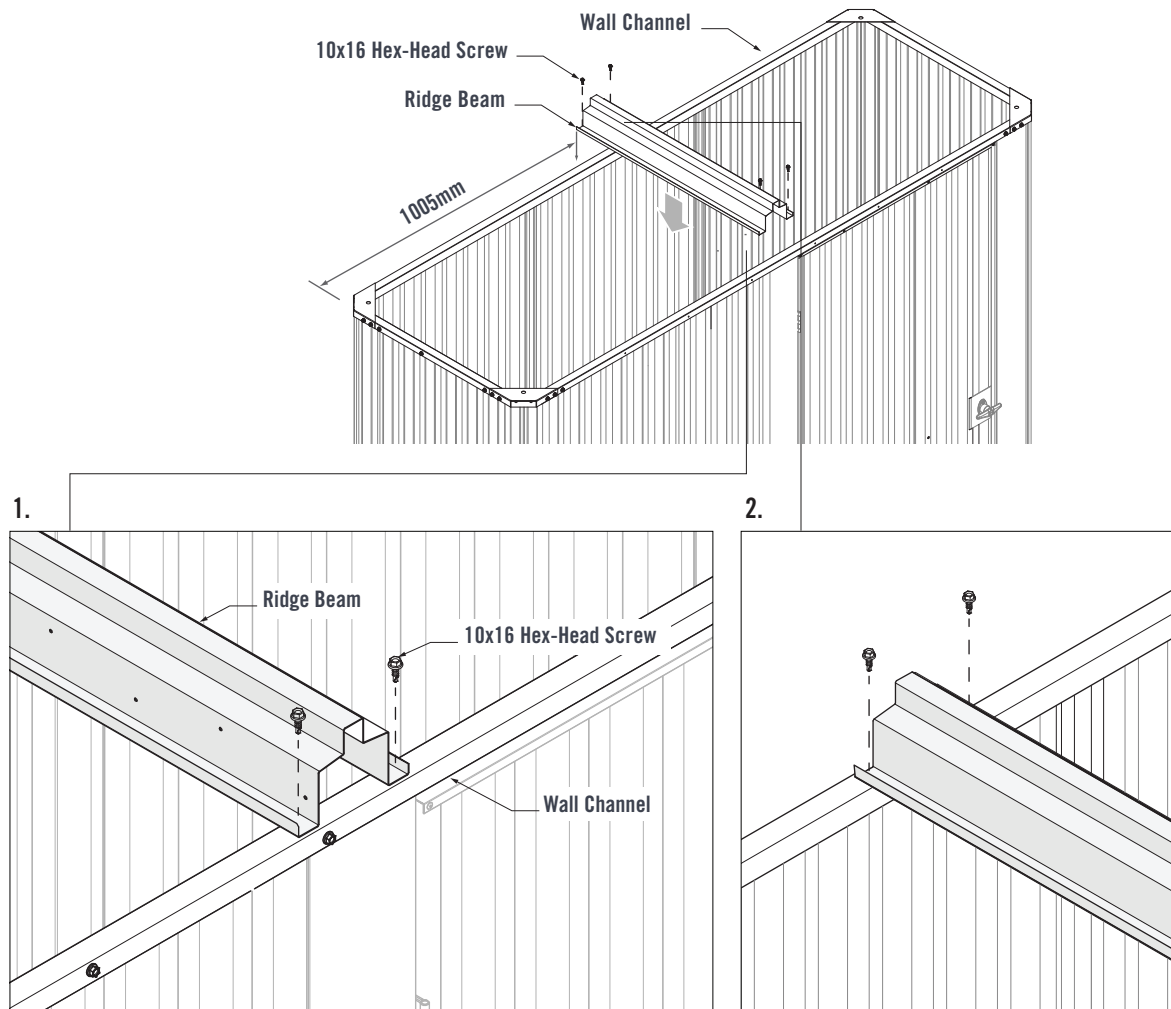

FIGURE 7.1
Fit the Ridge Beam onto the top Wall Channels. Ensure 1005mm spacing between the edge of the shed and edge of the Ridge Beam (Figure 7.1).
1. Align the end of the Ridge Beam with the outer edge of the Wall Channel. Fasten two 10x16 Hex-Head Screws through the pilot holes in the Ridge Beam and into the Wall Channel (Figure 7.1).
2. Fasten two 10x16 Hex-Head Screws through the pilot holes in the Ridge Beam and into the rear Wall Channel (Figure 7.1).